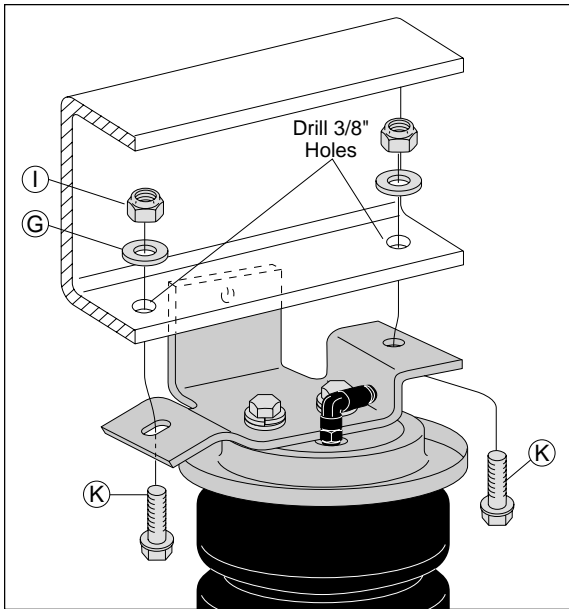

Figure 5
5. Being sure that the air spring assembly is still aligned, use the holes on each end of the upper bracket as a template to mark and drill two  $\frac{3}{8}$ " diameter holes for mounting (Figure 5). *NOTE: Be sure that the flange is flat against the side of the frame.*